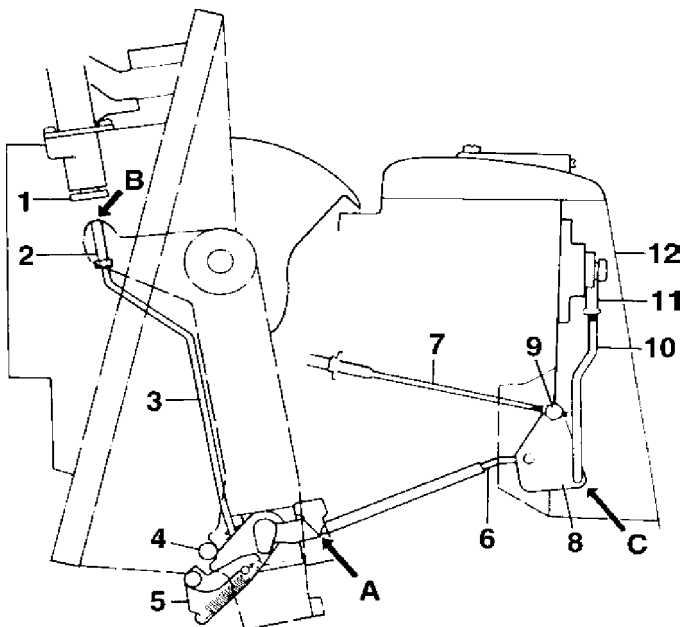

Fig. 49.
8. Check to make sure that the control lever and the drive shaft lever are in neutral. Slacken the locknut for the yoke 11, Fig. 49 and turn the yoke on the thread of the control rod 10 so that when it is connected to the shift lever, the position of the reverse check rod 6 is such that the rod comes in contact with (without force being used) the bracket of the retaining pawl at "A". Lock the yoke 11 with the locknut in this position. (**In other words, there must be no axial play on the reverse inhibitor rod 6.**)
10. Pull down the retaining pawl against the stop (the stop lugs) on the journalling (43) and release the lock-nut for the thrust sleeve 2, Fig. 49. Adjust the thrust sleeve with the retaining pawl still down so that the sleeve comes to the level of or max. 0.5 mm (0.02") below the contour of the yoke, see B, Fig 49. Lock the thrust sleeve with the counternut. Then press the drive forwards towards the locating pin and check that the upper end of the thrust rod 3 is not in contact with the thrust plate of the lift. When the lift 1 is tilted up, the retaining pawl releases.